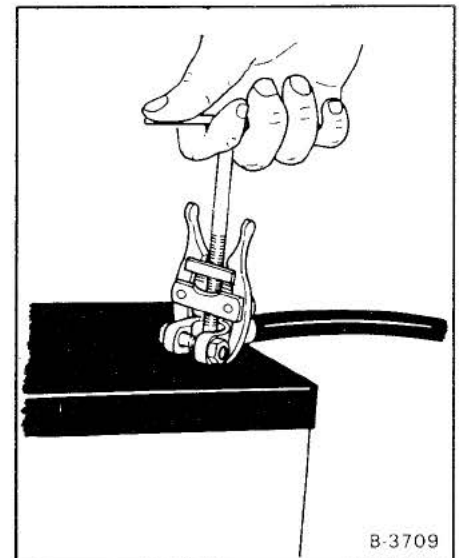

Fig. 60 Removing Battery Clamp
1. Remove the battery cables (Fig. 60). Remember the position of the positive terminal and the negative terminal so you can connect the cables correctly after the new battery is installed.